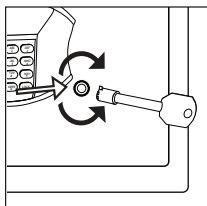

Figure 2
2. Insert override key and turn left (or right for some versions) to unlock safe (Figure 2).